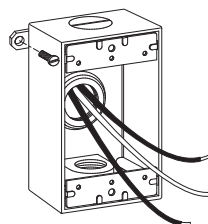

Figure 3
3. Feed the supply wires into the box (Figure 3). Attach the box to the surface using 1" long screws (not supplied).